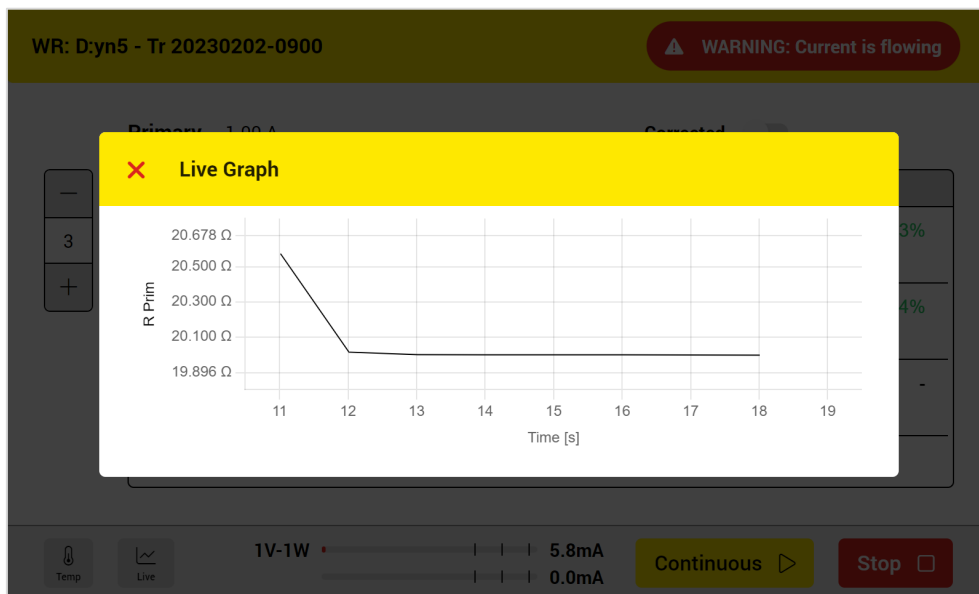

Figure 54: Winding resistance live graph
- 3 Here you can open the live graph to see the live resistance curve over time (Figure 54). It is visible only during a measurement
Figure 54 is the live graph which shows the live resistance curve over time.